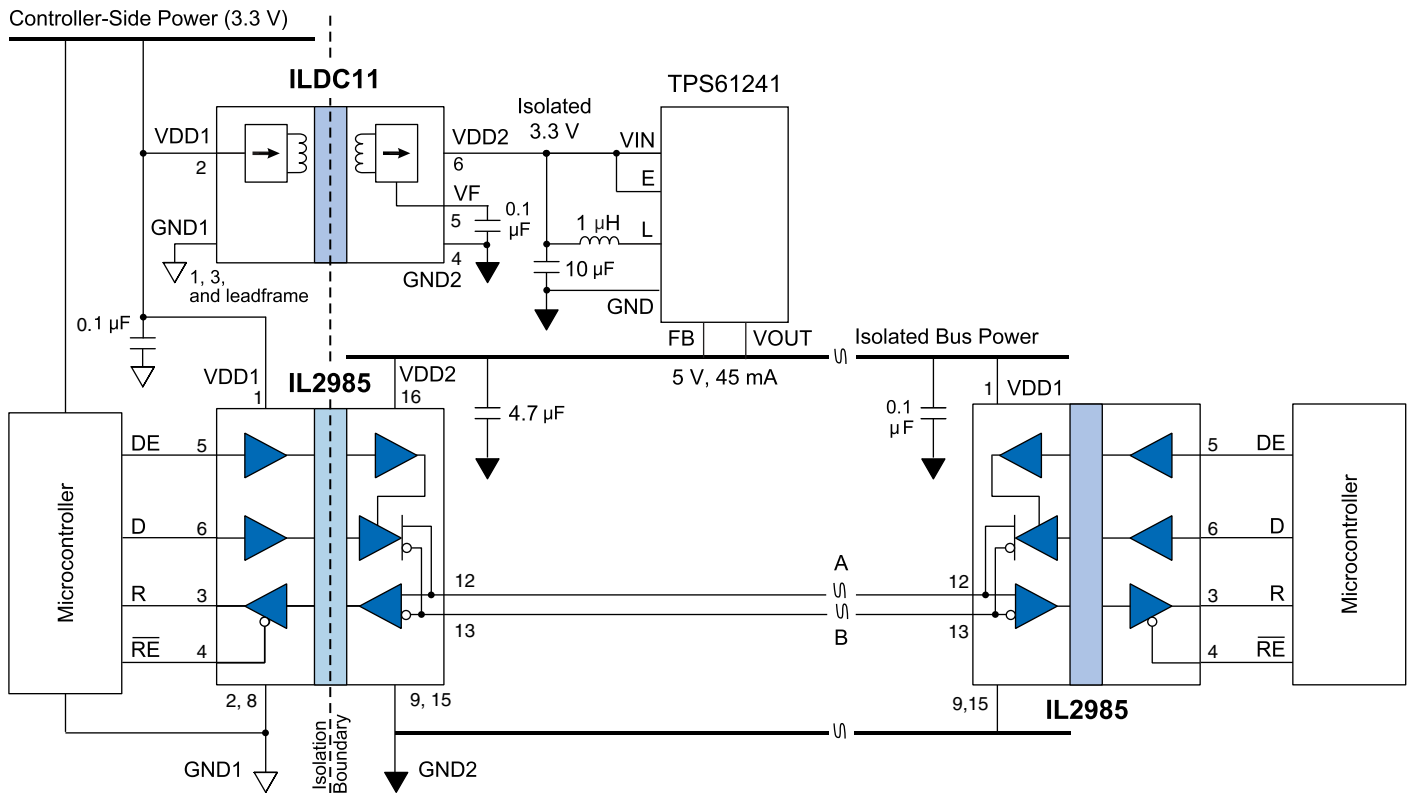

Figure 3. An RS-485 system with an ILDC11 isolated DC-DC converter.
- Added DC-DC convertor application circuit (Fig. 3; p. 10).